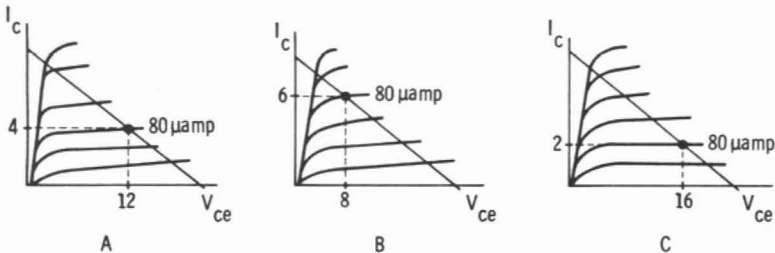
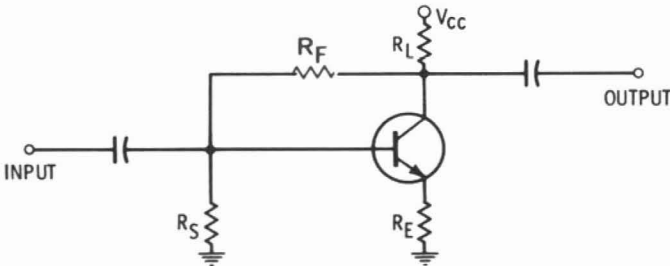

Fig. 4-6. Variations in output curves.
Fig. 4-8. Well-stabilized bias arrangement.
**Limitations**—The bias arrangement just described illustrates the principle involved and is a working circuit, but it has a couple of severe practical limitations. The first limitation is that transistors of the same type can have different curves, and thus the base current provided will give different operating points. This is shown in Fig. 4-6.  $I_B = 80 \mu\text{amps}$  for each case, but the operating point is different. The manufacturer's curves are typical and do not represent the exact curves for each transistor of that type. Not only might the curves be different for different samples of the same type, but at temperatures other than normal room temperatures the curves shift so that again the base current of  $80 \mu\text{amps}$  can lead to different operating points.
To stabilize the operating point against variations in  $\beta$ , an arrangement called self-bias is used. Instead of providing base current by connecting a resistor from the base to the power supply, a resistor is connected from the base to the collector. This is shown as  $R_F$  in Fig. 4-8. With this arrangement, the value of the base current is not fixed but rather will depend on the collector voltage. Refer to Fig. 4-6 which shows variations in output curves. If part A represents the average curves for a particular type of transistor,  $R_F$  can be calculated:
If another transistor of this type happens to have curves like those shown in B,  $V_{ce}$  will be smaller, and there is less base current. Since there is less base current, the collector current will be less and  $V_{ce}$  will actually increase toward the value shown in A. The operating point is not fixed as it was in the simpler arrangement; instead, it adjusts itself toward the results obtained from using the average curves. Fig. 4-8 shows the complete well-stabilized bias arrangement that takes into account  $I_{co}$ , temperature variations, and differences between transistors of the same type.